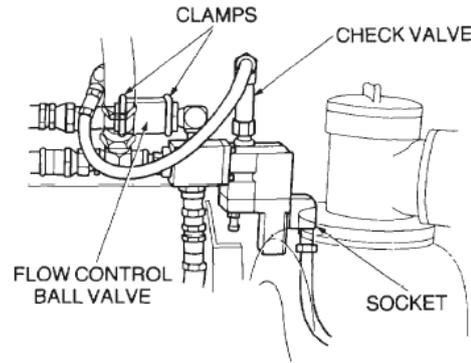

Figure 48 Solenoid Controlled Relief Valve
- c. Crack loose the pressure hoses at the valve assembly (Figure 48), to allow any residual fluid (which may be under pressure) to drain off.